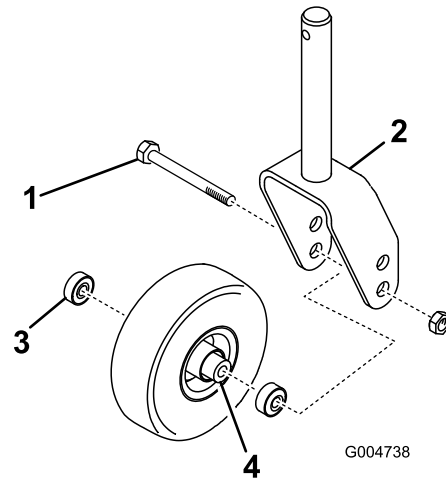
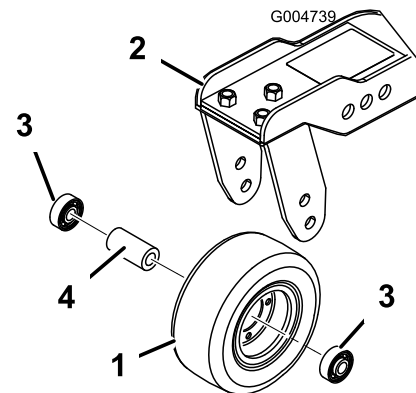

Figure 82
Figure 83
1. Remove the locknut from the bolt holding the castor wheel assembly between the castor fork (Figure 82)
or the castor pivot arm (Figure 83). Grasp the castor wheel and slide the bolt out of the fork or pivot arm.
2. Remove the bearing from the wheel hub and allow the bearing spacer to fall out (Figure 82 and Figure 83). Remove the bearing from the opposite side of the wheel hub.